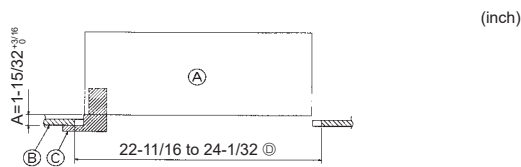

Fig. 5-2
②	Screw with washer	4	M5 × 0.8 × 28 (mm), 1/32 × 1-7/64 (inch)
③	Gauge	1
④	Junction wire for signal receiver	1	Included when equipped with the signal receiver.
⑤	Junction wire for i-See sensor	1	Included when equipped with the i-See sensor.
⑥	Fastener	2	Included when equipped with the signal receiver.
⑦	Fastener	2	Included when equipped with the i-See sensor.
⑧	Wireless remote controller	1	Included when equipped with the wireless remote controller.
⑨	Remote controller holder	1	Included when equipped with the wireless remote controller.
⑩	LR6 AA batteries	2	Included when equipped with the wireless remote controller.
⑪	3.5 × 16 mm tapping screws	2	Included when equipped with the wireless remote controller.
5.2. Preparing to attach the grille (Fig. 5-2)